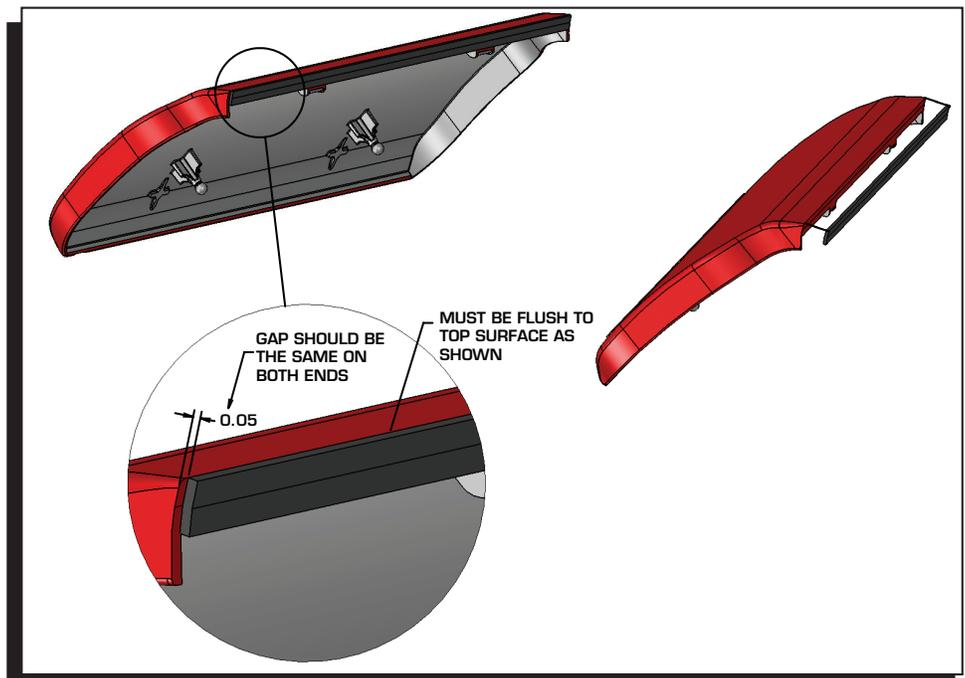

Figure 6 Applying Foam Tape to Unfinished Covers.
3. If you are installing the natural cast coil covers, you will need to install the supplied foam tape to the top of the cover. Prepare the coil covers by applying the supplied black foam tape to the top edge of the cover (Figure 6). This material will act as a seal and dampener between the fuel rail and the cover.